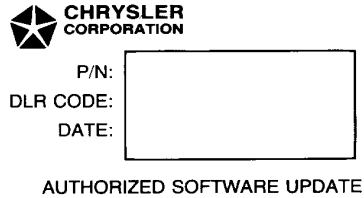

FIGURE 1
- 7. Type the necessary information on the "Authorized Software Update Label" p/n 04669020 (Figure 1). Attach the label to the PCM and cover the label with the clear plastic overlay.